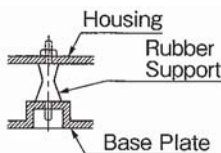

Fig. 9
3) Loosen 4 nuts of the Rubber Support and take out 4 Rubber Supports from the Housing. Now the disassembly is completed. (Fig.9)
NOTE: If the Rubber Support is installed, being twisted, the Rubber Support will be quickly damaged. (Fig.9)